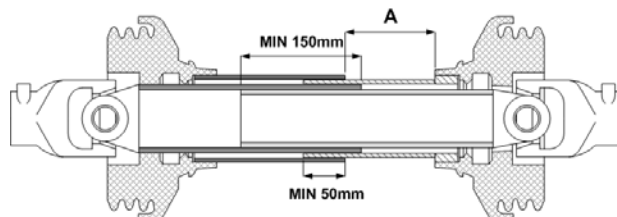
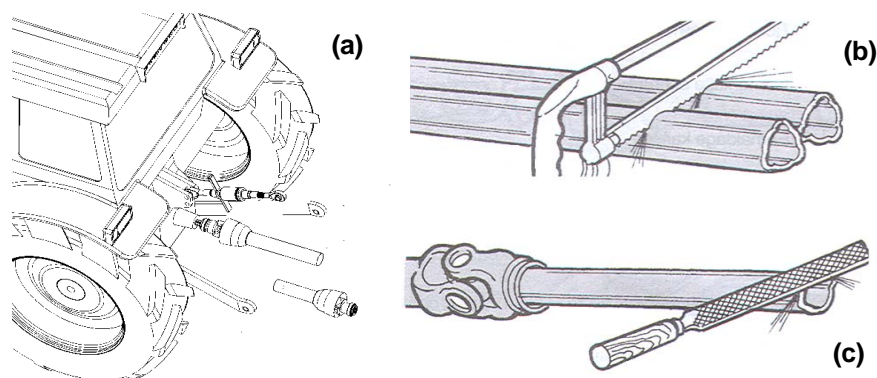

Figure 4.2
Figure 4.3
IMPORTANT: The recommended minimum engagement of the PTO is 150mm in the working position. This measurement must be taken into account when shortening the PTO shaft. (See Figure 4.3)
- 4.5.1.2 Pre-assemble the PTO shaft and check that the drive tube overlap is not less than 150mm, see Figure 4.2 and Figure 4.3 a.
- 4.5.1.3 Check that the minimum overlap of the shaft guards is not less than 50mm, see Figure 4.2.
- 4.5.1.4 If the overall PTO length is likely to reduce during operation then ensure that at its minimum there is at least 40mm movement left between the guards, see dimension 'A' in Figure 4.2.
- 4.5.1.5 If the PTO needs to be shortened, cut both tubes as both halves must be shortened equally, see Figure 4.3 b.